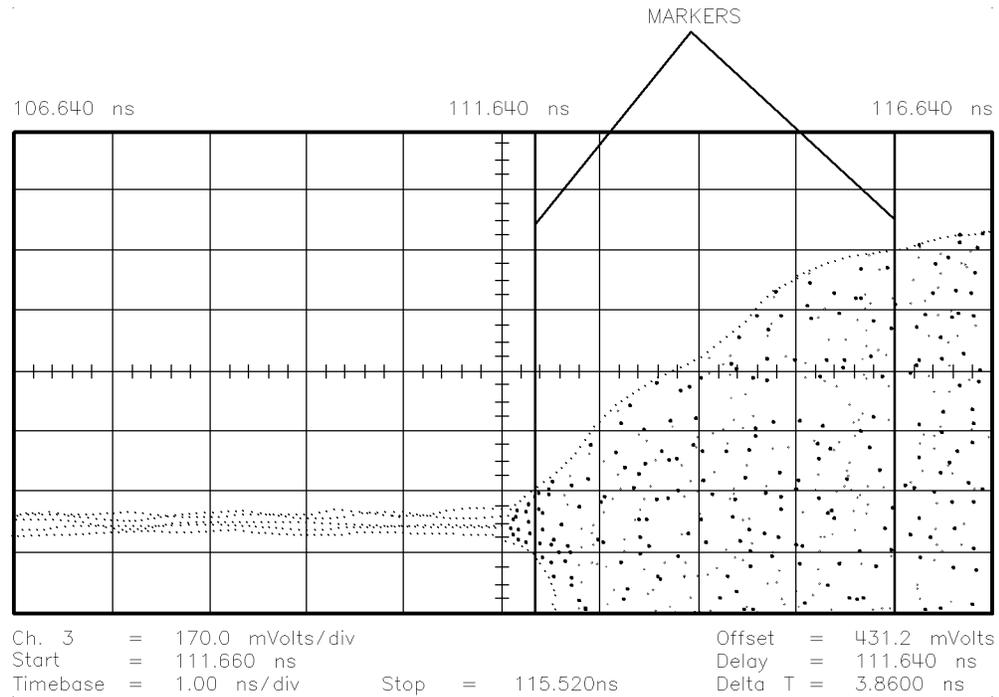

Figure 2-17. Widened Pulse Envelope
- d. Adjust the oscilloscope timebase to widen the pulse envelope so that the measurement can be made with greater accuracy. (See Figure 2-17.)